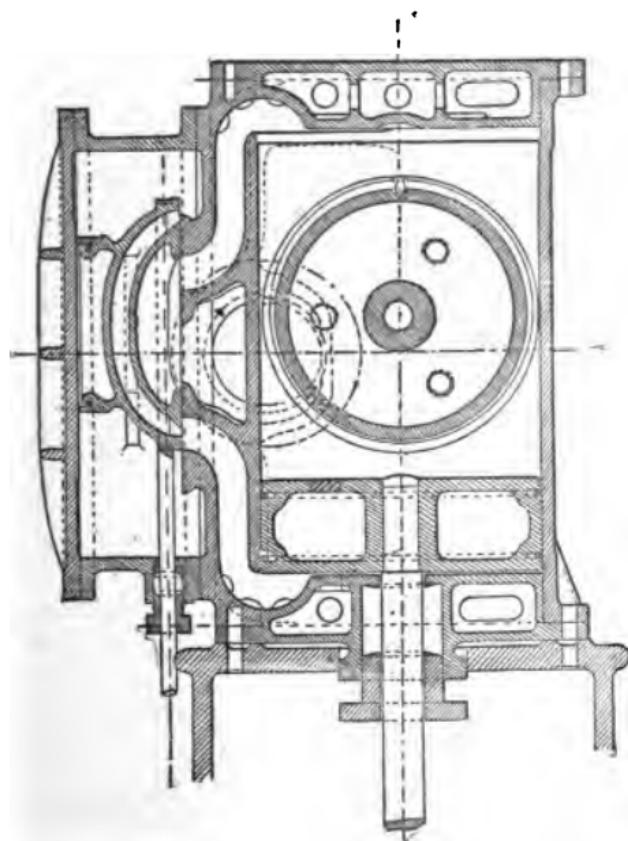
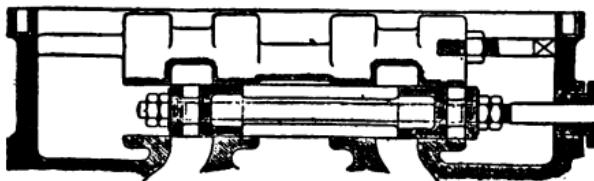
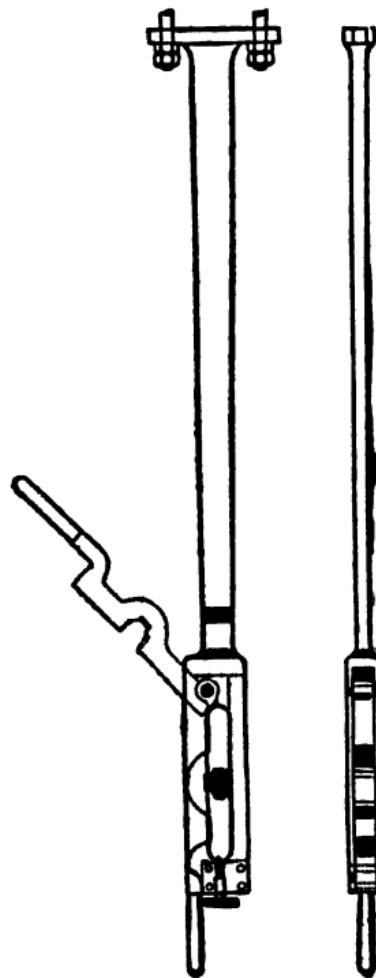
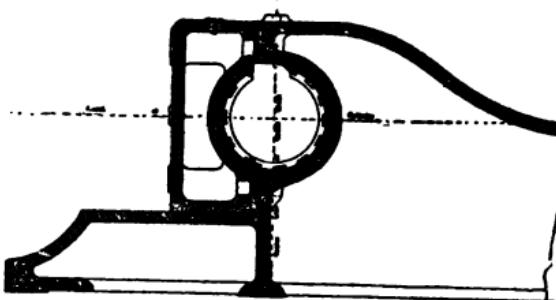

FIG. 38. CENTRAL VERTICAL LENGTHWISE SECTION, PORTER-HAMILTON ENGINE.
FIG. 40. PORTER-HAMILTON BALANCED VALVE.
FIG. 41. KRUCKEGE DROP HOOK.
FIG. 43. PORTER-HAMILTON, MAIN BEARING.
A. Overhung cylinder, a ribbed, hollow box-bed, of the Porter (usually called "Tangye") type, with the bottom of the guides a part of the main casting a main bearing split on its side, as shown in Fig. 43; valve seat at the side of the cylinder, and low down; a single slide valve balanced by a Margach plate, and with uniform motion, making two openings for admission; the second one by a passage behind the exhaust cavity, as shown in Fig. 38; although sometimes there is used a flat valve provided with a balance plate resting on ledges (see Fig. 40); wide hollow piston (see Fig. 38) forced on the rod, and the rod end riveted. The crosshead is purposely heavy. The overhang of the crank is very slight. The crank pin diameter is greater than its working length. There is a Kirkevaag drop hook (Fig. 41) which enables disconnection from the rocker pin without lifting the eccentric rod.